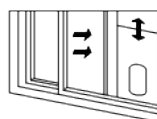

Fig.3
- 1) Half open the window, and mount the window sealing plate assembly to the window (as shown in Fig.2 and Fig.3); the assembly can be placed in horizontal and vertical direction.